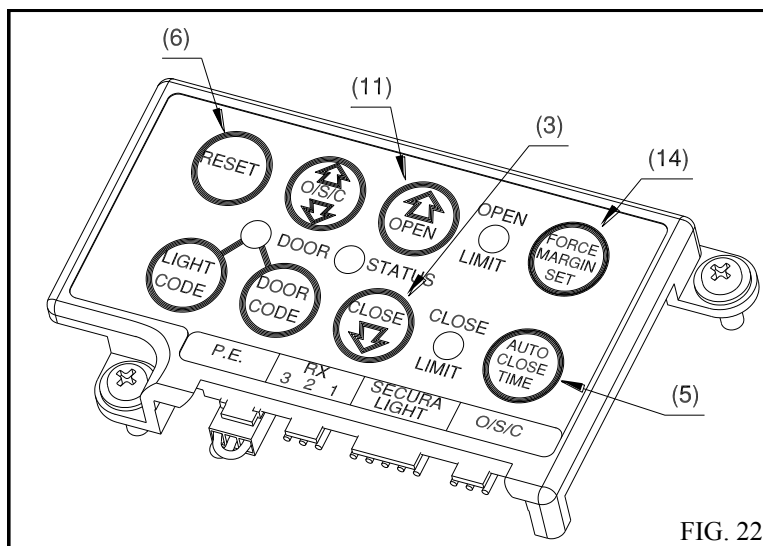

FIG. 22
1. Press in together and hold the Auto Close Time button 5 and Force Margin Set button 14 (FIG. 22).
2. While holding in the two buttons, press the green Open button 11 (FIG. 22). Each press of this button will add 10 seconds to the light time.
3. To decrease the time follow step 1 and press the red Close button 3 (FIG. 22). Each press will deduct 10 seconds from the light time.
4. To recall the factory set default light time press in and hold together the Auto Close Time button 5, the Force Margin Set button 14 and the Reset button 6 for about 2 seconds. (FIG. 22).